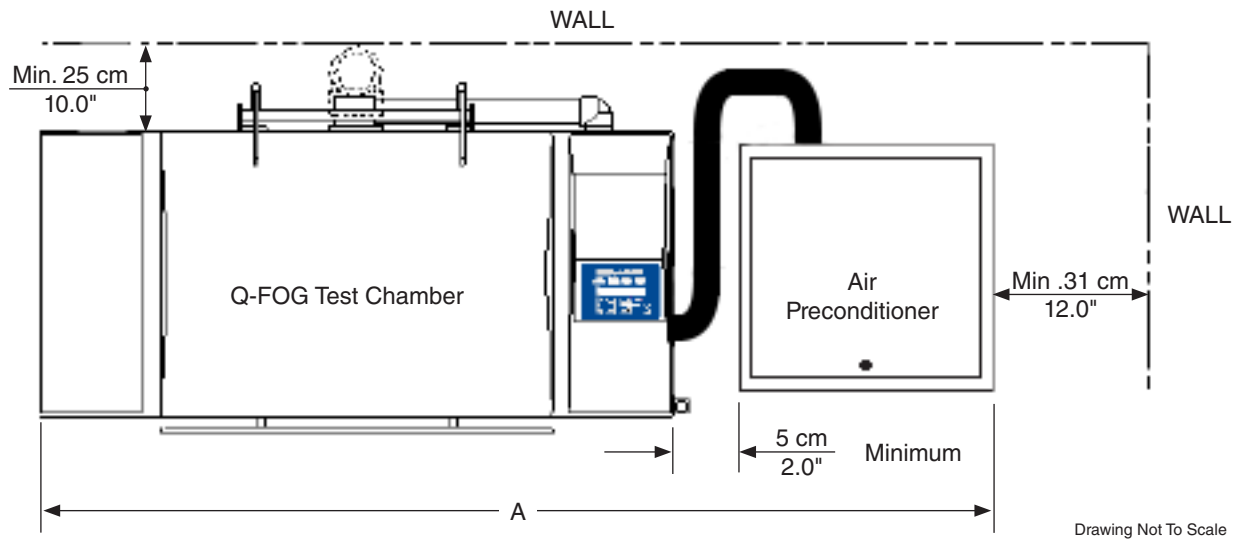

Figure 6.1d: Q-FOG CRH space requirements.
- Installation location space requirements are shown in Figure 6.1d.
- The Q-FOG CRH test chamber and Air Preconditioner should be positioned as shown in Figure 6.1d below to allow sufficient room to operate the unit and for proper ventilation.